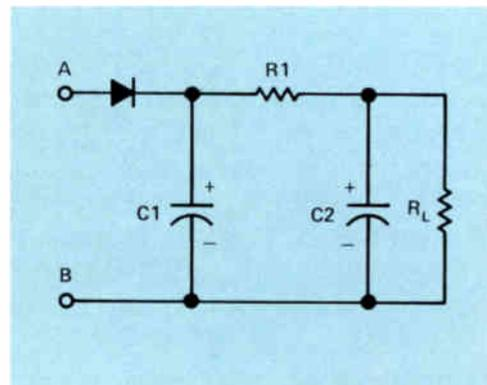

Figure 16. An RC pi-type filter.
An improved filter, which is called a *pi filter* because it looks like the Greek letter ( $\pi$ ), is shown in Fig.16. You will notice that this
The disadvantage of the resistor-capacitor type of filter shown in Fig.16 soon becomes apparent if you consider what happens because of the resistance of the filter resistor and the dc current flowing through it. If the dc current in the load is 100 mA, which is 0.1 ampere, the voltage drop across the 500 ohm filter resistor referred to in the previous section would be 50 volts. In the case of a power supply operating directly from the ac power line, a substantial portion of the available voltage would be dropped across the filter resistor. You will see this type of filter in applications where the current is reasonably low. In applications where there is a high dc current, an LC filter like the one shown in Fig.18 is usually used.
The action of the filter network made up of  $L_1$  and  $C_2$  is shown in Fig.19. You already know that a capacitor has a high resistance to dc, so that the only current flow through it will be a small leakage current. Therefore, as far as the dc is concerned, the capacitor acts like a high resistance. The dc resistance of  $L_1$ , which is called a *choke*, can be kept low by using a reasonably large wire size to wind the coil. It is comparatively easy to build a 10 henry choke with a dc resistance as low as 50 ohms. With a 50 ohm dc resistance, the voltage across the choke with a current of 100 mA would be only 5 volts. This is far less than the 50 volt drop you would get across a 500 ohm filter resistor in the circuit shown in Fig.16.
- 17 What advantage does the RC pi-type filter shown in Fig.16 have over the single capacitor-type filter shown in Fig.14?
7. The advantage of an LC filter such as shown in Fig.18 over an RC filter such as shown in Fig.16 is: